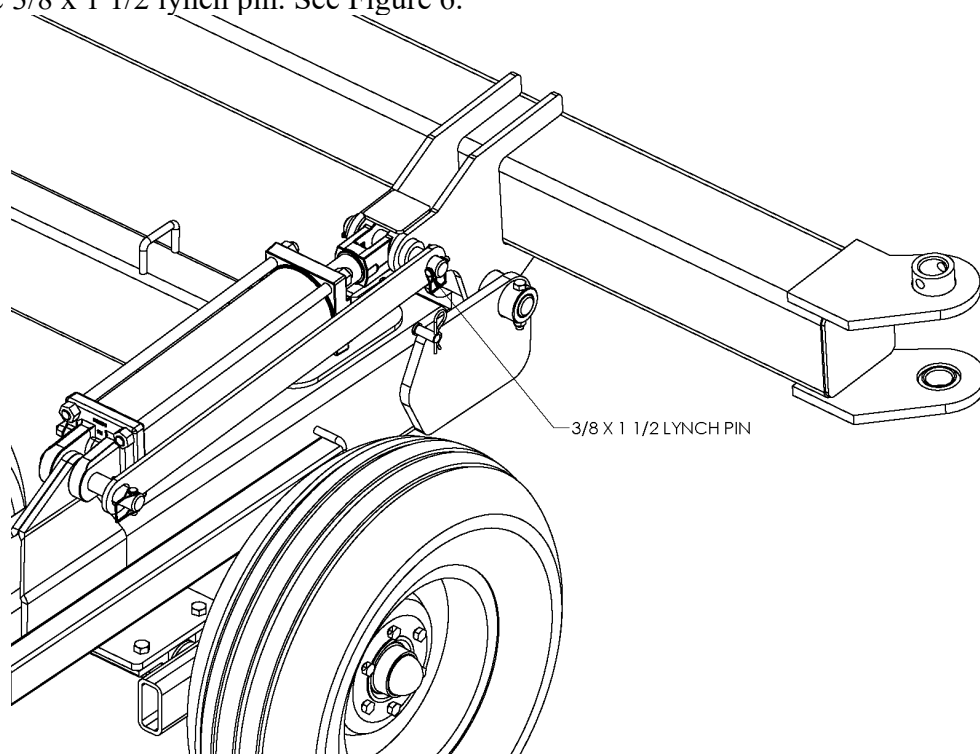

Figure 6
2. After the center bar has been rotated into the transport position remove the bridge pin securing the lock bar to the main frame and rotate the lock bar up and secure it to the rod end cylinder pin with the 3/8 x 1 1/2 lynch pin. See Figure 6.